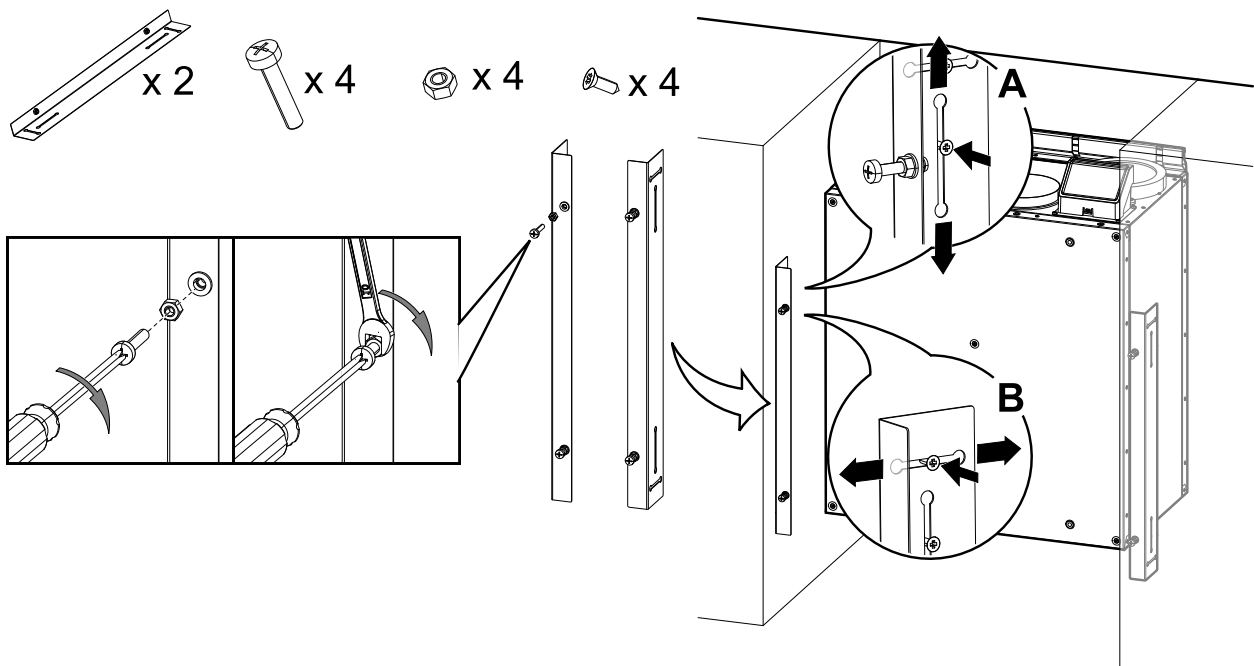

Fig. 17 Installation of bolts and brackets
1. Install four M6 bolts into threaded inserts in brackets and lock bolts with hex nuts (figure 17). Bolts protrusion can be adjusted later.
Brackets are adjustable vertically (figure 17, A) and horizontally (figure 17, B). Align the brackets with the underside of the unit. Fully tighten screws after adjusting the brackets.